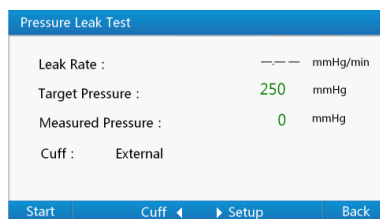

Figure 10 Pressure leak test interface
- 1) Use up or down key in **"Pressure Test Menu"** to select **"Pressure Leak"**, then press **"Enter Key"** to **"Pressure Leak Test"** interface shown as Figure 10, As a shortcut, you can use number key **"1"** to this interface quickly, In this interface, pressing **"Return Key"** can get back to **"Pressure Test Menu"**.